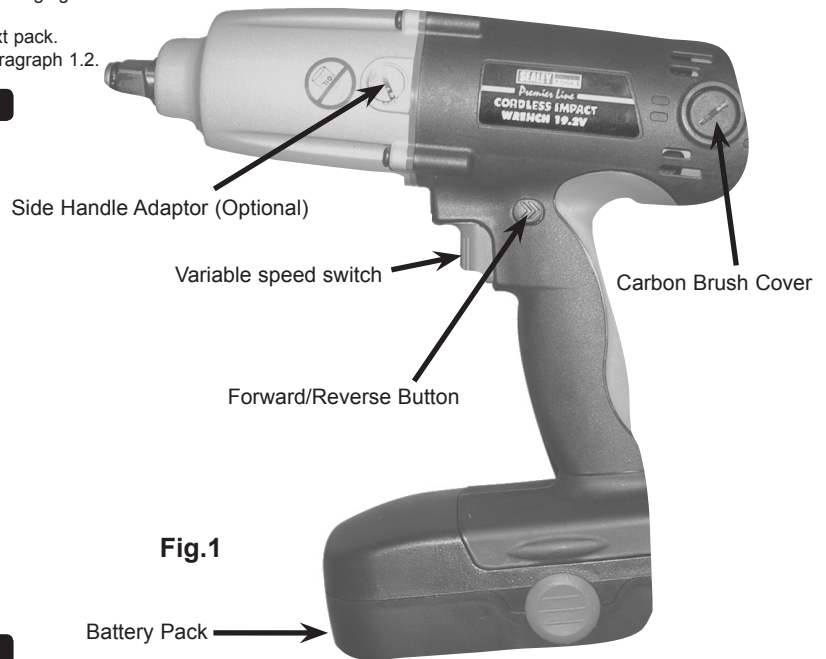

Fig.1
3.3.4. Select the required direction of rotation. To change direction, push Forward/Reverse button (Fig. 1) to the left or right. Familiarise yourself with this operation before use. DO NOT attempt to change the direction of rotation whilst trigger is depressed.